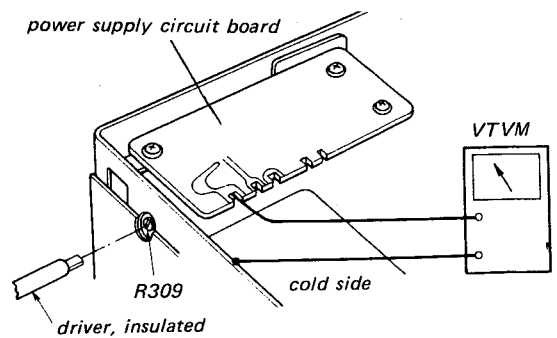

Fig. 12-4 Power voltage adjustment
R309 100 kΩ (B) See Fig. 12-4.